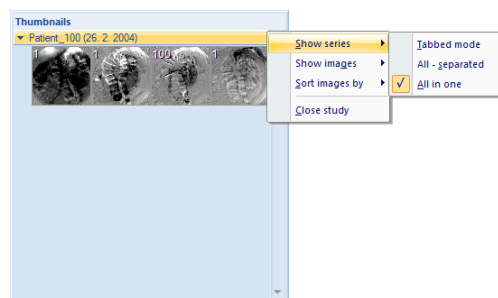

Figure 28 – Displaying series in All – in one mode
- **All - in one**, reduced thumbnails of all series of the study are displayed at once one after another without dividing them into series (see Figure 28).